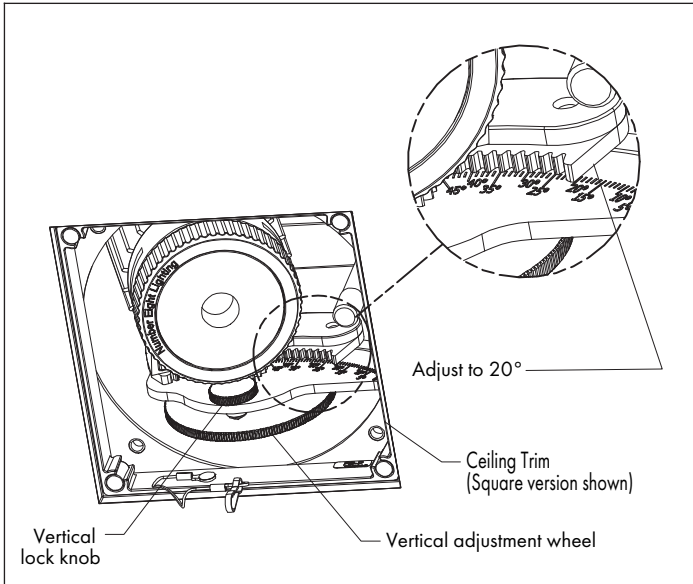

FIG 11.1 Adjust Vertical Aiming Angle
STEP 1 Unlock & adjust J2 or J2S Lamp Module to 20° vertical aiming angle for optimal wall wash performance - **FIG 11.1**.